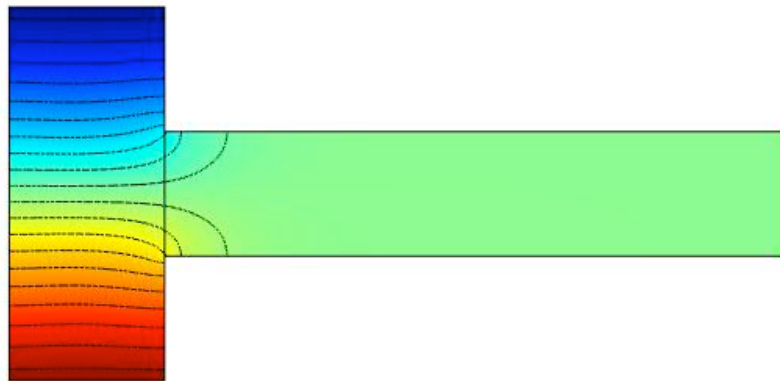

Figure 11.4. Solution to T-sensor diffusion/convection problem with $D = 1$
Step 6: examine the solution. The velocity shows first in the graphics window. To see the concentration, right click on Results and choose 2D Plot Group. Right click on 2D Plot Group and choose Surface. The default expression is $spf.U$. Change it to c . Also change the Data set to Solution 2. Click the plot icon to see the plot of concentration, Figure 11.4.